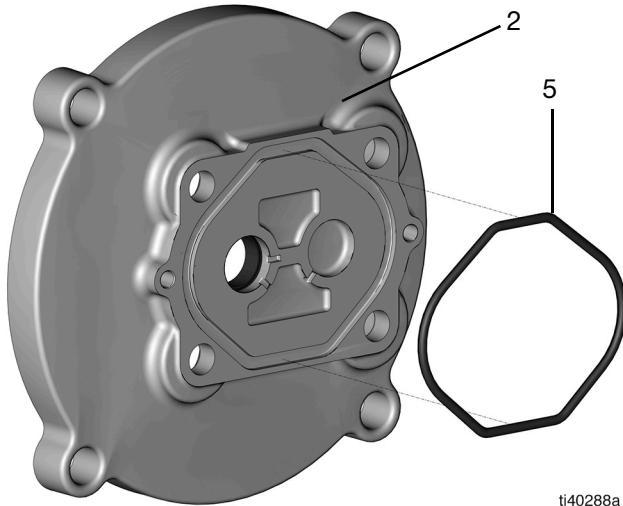

FIG. 11
2. Put the o-ring (5) into the groove on the adapter plate (2) cover (FIG. 11).